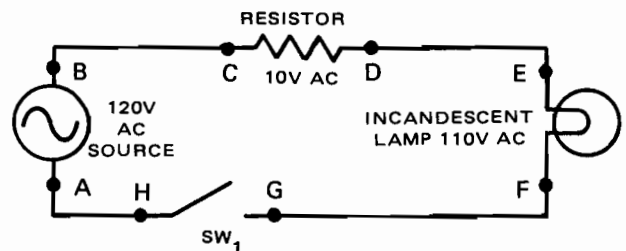

Fig. 8-4-1
6. A schematic drawing of a simple ac circuit is shown in Fig. 8-4-1. Note the ac voltage that appears across each component. Indicate which VOM range would be most desirable to read these voltage values. A-B is _____, C-D is _____, E-F is _____.